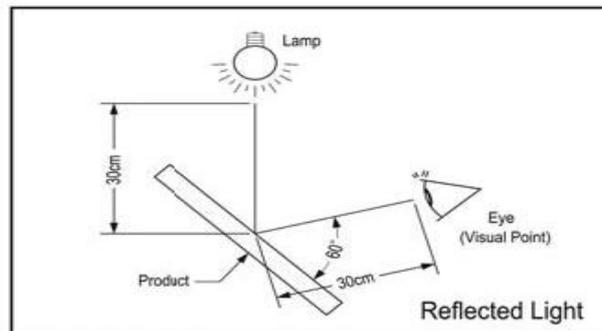

Figure 11-1
(2) The inspection was performed with one 20W fluorescent lamp lighting from back or side. The panel was placed 30cm away from eyes. (Figure 11-1).
[(2) 检测始用之灯光为一盏20W 白炽灯光, 并于面板后侧或上侧照射, 检测时须放置在离眼睛30cm 处(Figure11-1)]